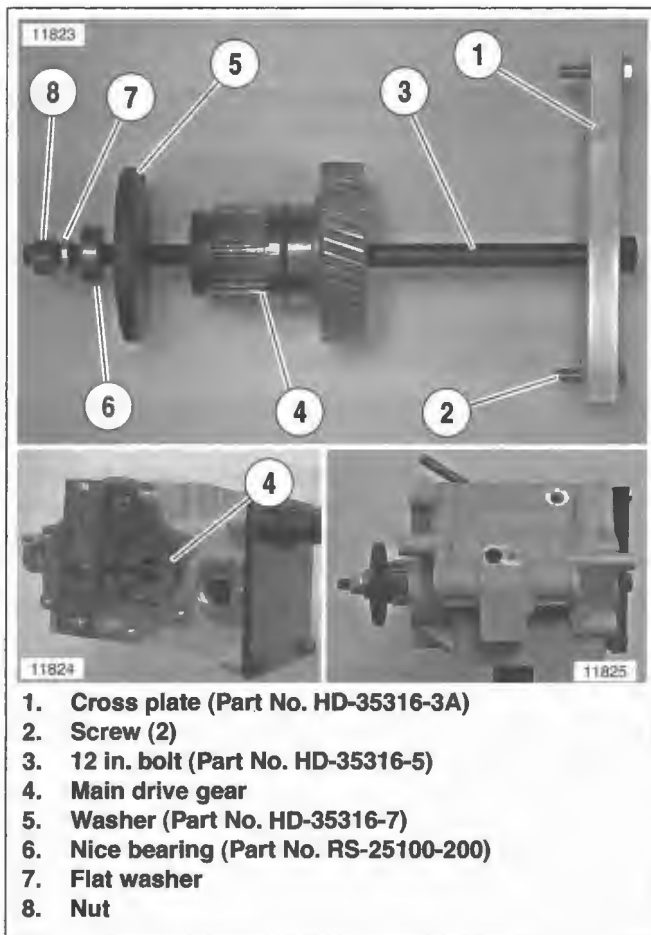

Figure 7-35. Removing Main Drive Gear
- See Figure 7-35. Place CROSS PLATE (Part No. HD-35316-3A) (1) on right side of transmission case as shown, and secure with two screws (2). Position cross plate so that large bolt hole in cross plate is lined up with center of main drive gear (4).
- Insert 12 IN. BOLT (Part No. HD-35316-5) (3) through cross plate and main drive gear.
- At left side of transmission case, place WASHER (Part No. HD-35316-7) (5), NICE BEARING (Part No. RS-25100-200) (6), FLAT WASHER (7) and NUT (8) over end of bolt. Tighten nut until main drive gear is free.